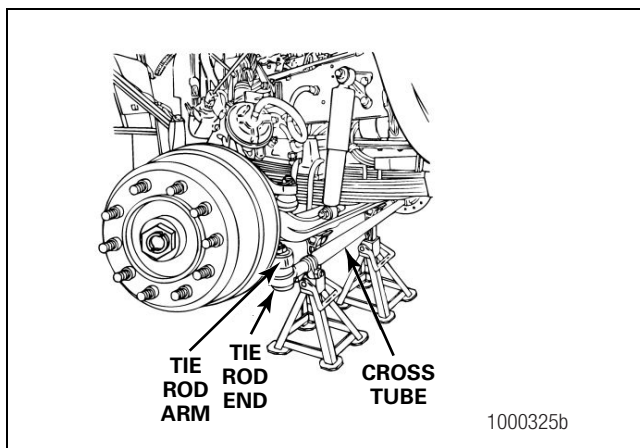

Figure 6.18
1. Park the vehicle on a level surface with the wheels STRAIGHT. Block the wheels to prevent the vehicle from moving. Set the parking brake. Figure 6.18.